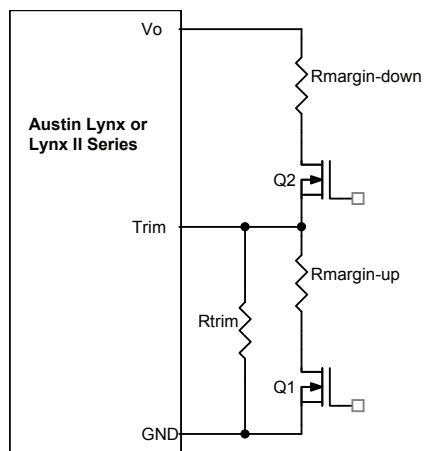

Figure 31. Circuit Configuration for margining Output voltage.
To provide over temperature protection in a fault condition, the unit relies upon the thermal protection feature of the controller IC. The unit will shutdown if the thermal reference point T_{ref2} , (see Figure 31) exceeds $150^{\circ}C$ (typical), but the thermal shutdown is not intended as a guarantee that the unit will survive temperatures beyond its rating. The module will automatically restarts after it cools down.
Output voltage margining can be implemented in the Austin MicroLynx™ modules by connecting a resistor, $R_{\text{margin-up}}$, from Trim pin to ground pin for margining-up the output voltage and by connecting a resistor, $R_{\text{margin-down}}$, from Trim pin to Output pin. Figure 31 shows the circuit configuration for output voltage margining. The POL Programming Tool, available at www.lineagepower.com under the Design Tools section, also calculates the values of $R_{\text{margin-up}}$ and $R_{\text{margin-down}}$ for a specific output voltage and % margin. Please consult your local Lineage Power technical representative for additional details.